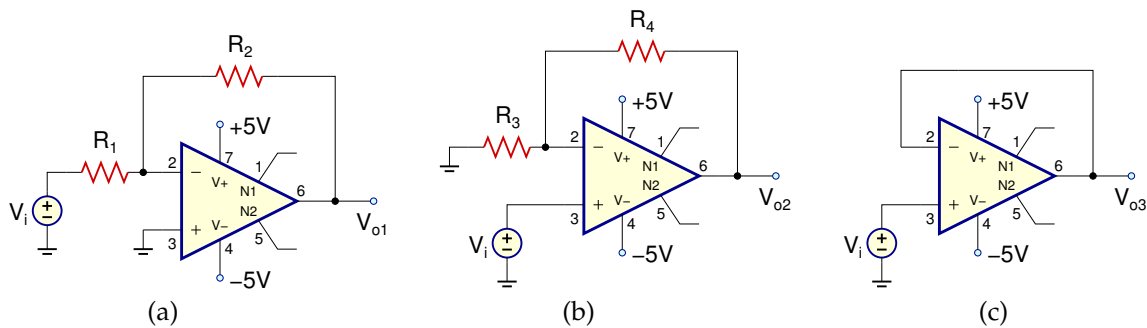

Figure 1: Opamp configurations (a) Inverting amplifier (b) Non-inverting amplifier (c) Voltage follower
- Derive the voltage gains $\frac{V_{o1}}{V_i}$, $\frac{V_{o2}}{V_i}$, and $\frac{V_{o3}}{V_i}$ for the circuits in Fig. 1, assume the opamps are ideal.
Draw the schematics for the circuits in Fig. 1 with the calculated component values using the UA741 opamp model. Perform the following simulations for each circuit:
Build the circuits in Fig. 1 with the simulated component values. Perform the following measurements for each circuit:
3. For the inverting amplifier in Fig. 1(a) and the non-inverting amplifier in Fig. 1(b):
4. For the buffer in Fig. 1(c):